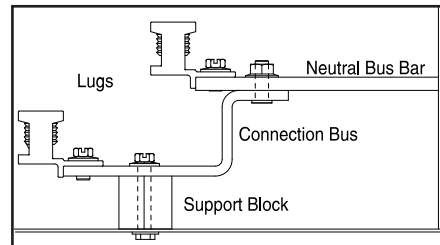

Fig. 12: Neutral assembly detail
The Neutral Lug can also be moved from its factory installed location below the cross bus to an alternate location above the cross bus. Remove (2) 1/4-20 screws (3/8" hex), relocate Neutral Lug to alternate location and reinstall. Tighten screws to 30-35 lb-in. See Fig. 12.
Additionally for 4-6 position stacks only: Remove the 1/4-20 nut (7/16" drive) on the Neutral Bus Bar and the 1/4-20 screw (3/8" drive) mounting extended Connection Bus to the red Support Block, and remove the extended Connection Bus with the lugs on. Relocate red Support Block to top position (thread onto existing 1/4-20 screw). Reinstall extended Connection Bus with lugs in top position. Tighten 1/4-20 nut (7/16" drive) to 60-65 lb-in. Tighten 1/4-20 screw (3/8" drive) to 30-35 lb-in. See Fig. 12.